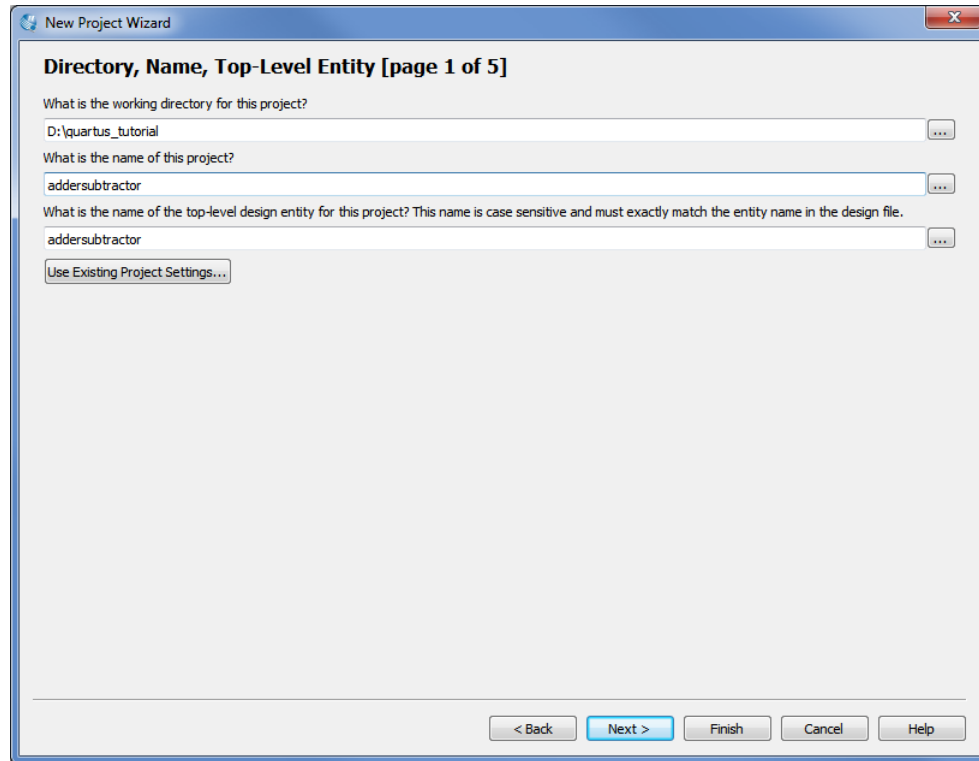
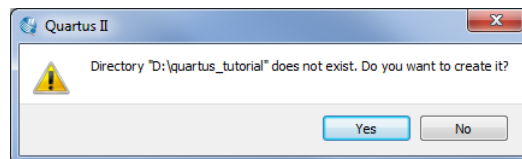
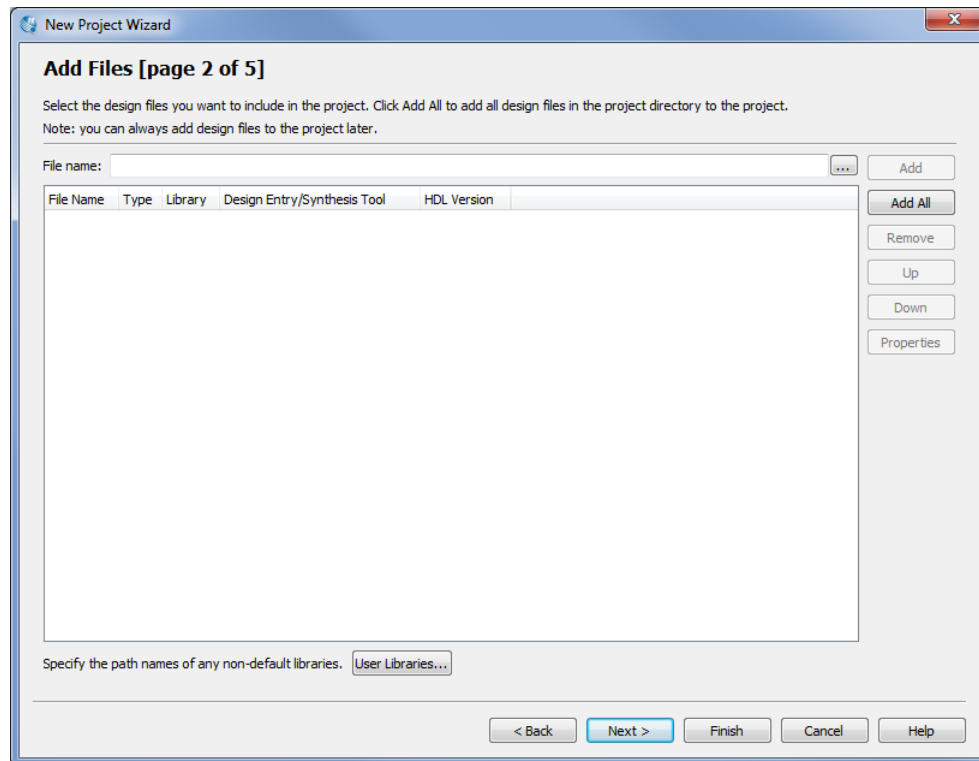

Figure 4: Creation of a new project.
Figure 5: The Quartus® II software can create a new directory for the project.
Figure 6: The wizard can include user-specified design files.
1. Select File > New Project Wizard to reach a window that indicates the capability of this wizard. Press Next. This will bring up the wizard screen as shown in Figure 4.
2. Set the working directory to be *quartus_tutorial*; of course, you can use a directory name of your choice. The project must have a name, which is usually the same as the top-level design entity that will be included in the project. Choose *addersubtractor* as the name for both the project and the top-level entity, as shown in Figure 4. Press Next. Since we have not yet created the directory *quartus_tutorial*, the Quartus® II software displays the pop-up box in Figure 5 asking if it should create the desired directory. Click Yes, which leads to the window in Figure 6.